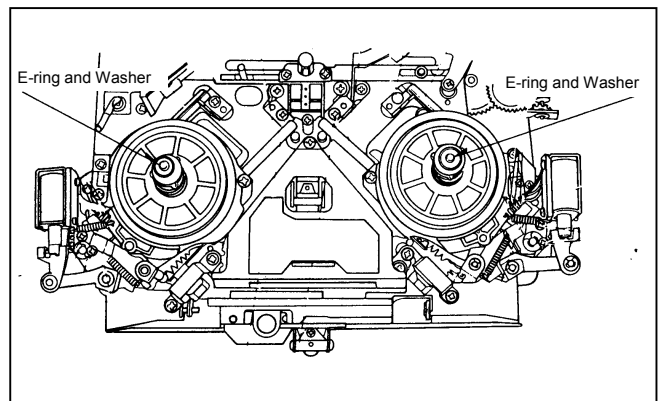

Figure 7-27-1 Supply and Take Up Reel Table Removal
3. Remove E-rings (A) and washers (B) and pull out the supply reel table and take up reel table as shown in figure 7-27-1.